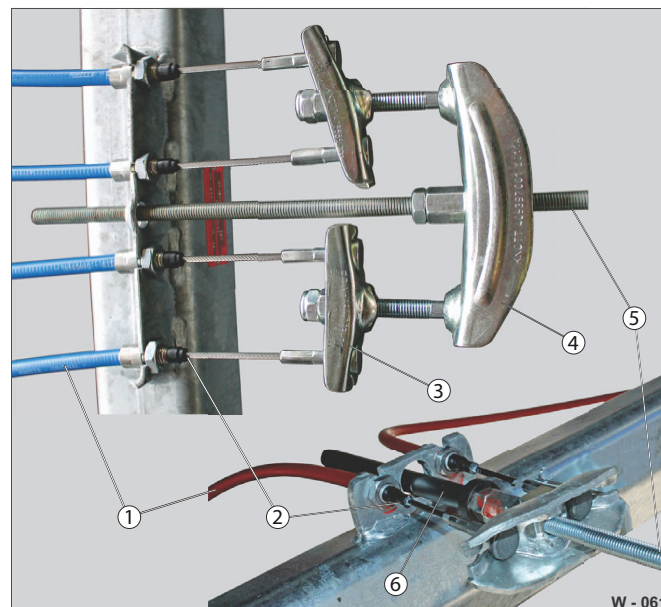

Fig. 50 Tandem compensation: Lubrication points
! The tandem compensator is there to ensure that all wheel brakes brake evenly. All Bowden cables (Fig. 50 /1) must be adjusted properly and must be lubricated. The brake linkage holder (Fig. 50 /6) prevents defective braking.
- Lubricate the open brake cables (Fig. 50 /2).
- If necessary, readjust the tandem compensation (Fig. 50 /3).